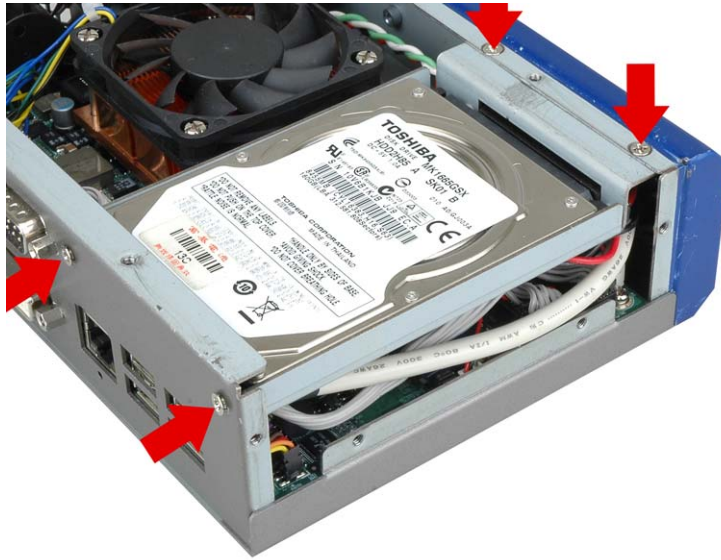

Figure 3-2: HDD Bracket Retention Screws (Inside)
Step 2: Remove the four HDD bracket retention screws (**Figure 3-2**) and lift the HDD bracket out of the ECN-581A-QM57.